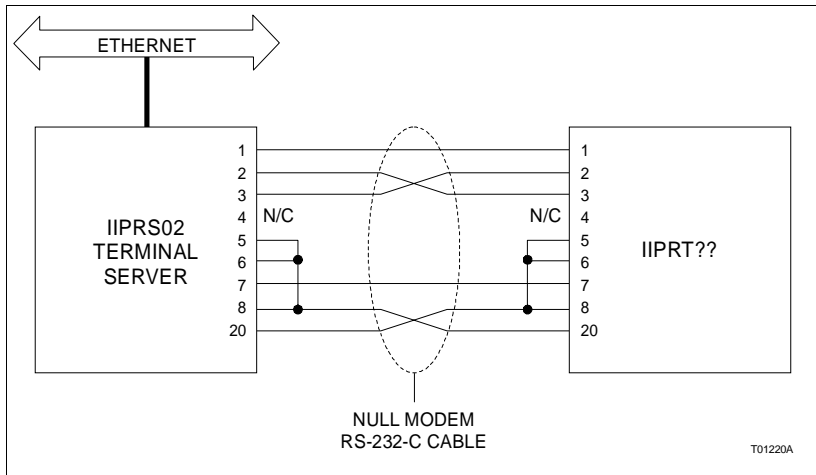

Figure PR33-1. Printer Cable Configuration
- 3. Connect one end of the printer cable to the DB-25 serial connector of the printer (Fig. PR33-1).